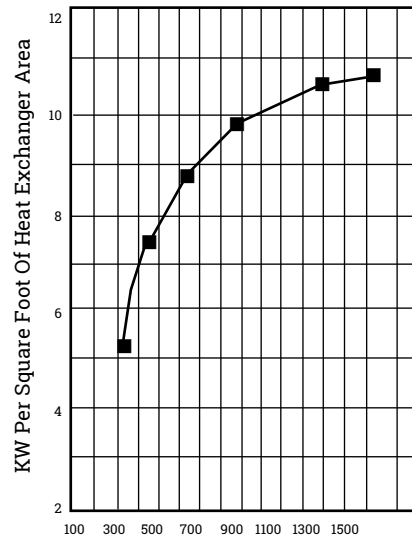
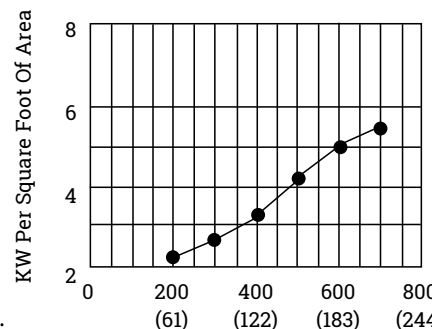

Figure 72.
Figure 73.
**Minimum air velocity** for safe operation is determined by dividing the heater KW by the cross-sectional duct area:  $KW/Sq. Ft. = KW / (W \times H / 144)$  where W and H are duct width and height in inches. For ULTRA-SAFE™ duct heaters, use the minimum W x H dimensions shown in the Heater Listing on page 48. Read the minimum velocity from the horizontal axis of Figure 72 for ULTRA-SAFE™ Duct Heater or Figure 73 for Series EP2 heaters.